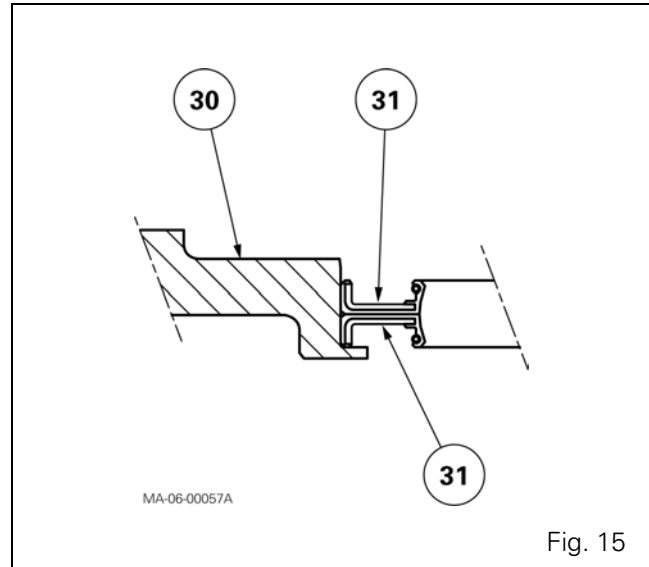

Fig. 15
- the compartment (30) (see § C);
- the planet carrier (25) (see § E);
- the ring gear (15) (see § C).
54. Drive out the lip seals (31) from the compartment (30) (Fig. 15). Discard them.
56. Using a suitable fitting drift and support, fit the lip seals (31) back to back in the groove of the compartment (30) as per Fig. 15.
- the ring gear (15) (see § C);